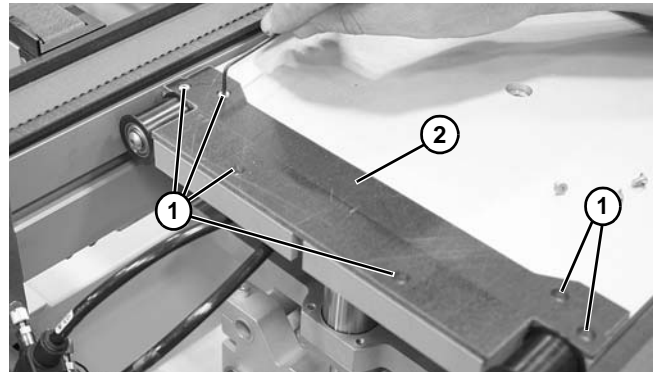

**Figure 136**
4. Remove hardware (**Figure 136, item 1**) securing motor (**Figure 136, item 2**) to bracket (**Figure 136, item 3**).